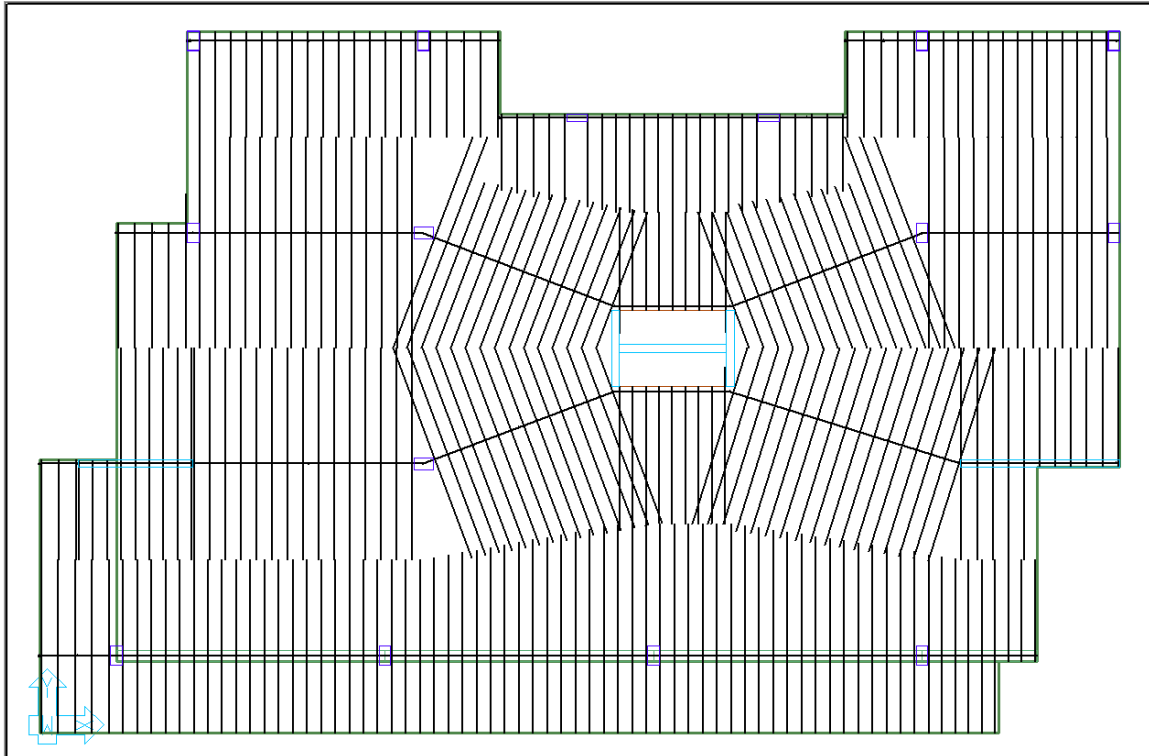

FIGURE 9-87
- Click on the **Top View**  icon in the *Bottom Quick Access* toolbar. The user's screen should now be like **FIGURE 9-87**.